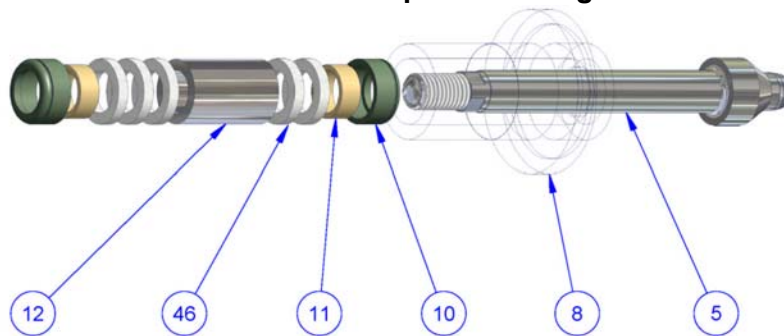

Figure 2: Packing
Please refer to Figure 2+3 (pg 8) and Appendix 5 (pg 13) for parts identification
9.5 Place the seat gasket (3), the seat ring (4) and seat retainer (7) into the valve body. Refer to fig 2 for orientation of the seat.